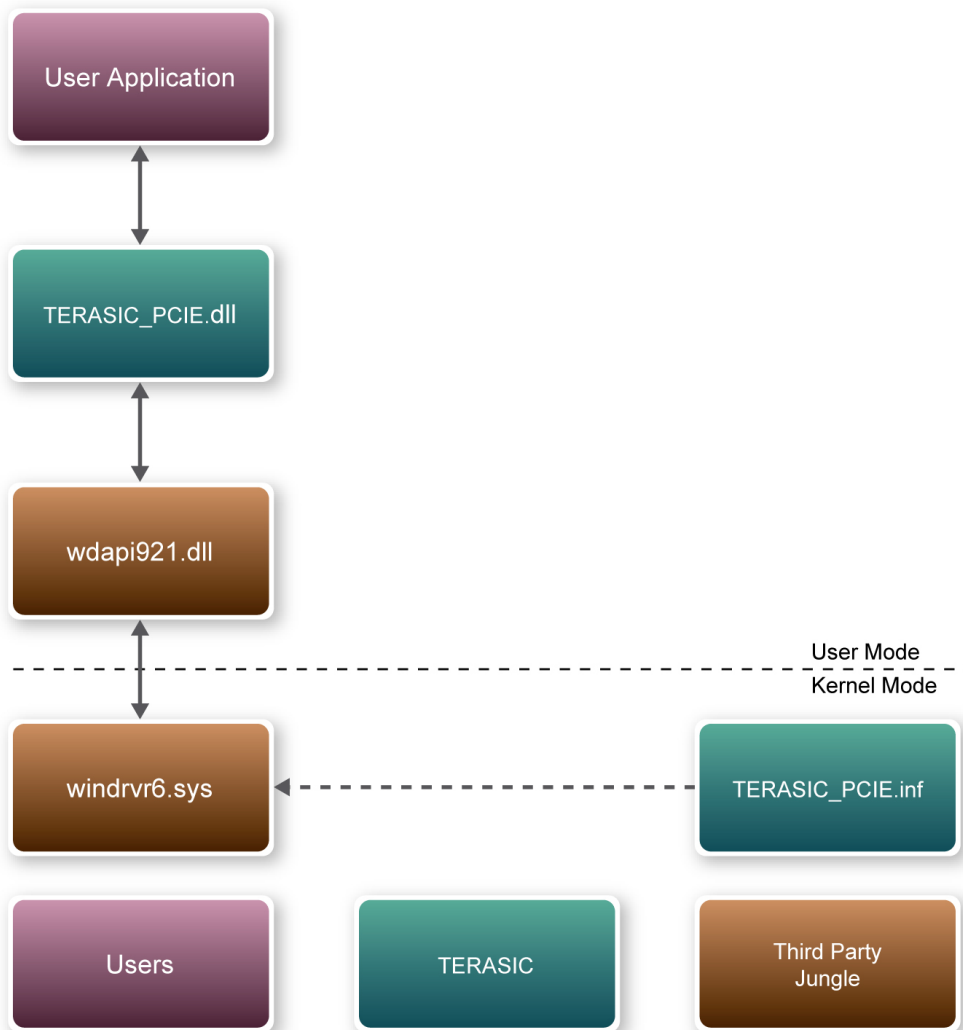

Figure 6–8 PCI Express Software Stack
**Figure 6–8** shows the software stack for the PCI Express application software on 32-bits Windows. The PCI Express driver is incorporated in the DLL library called TERASIC\_PCIE.DLL. Users can develop their application based on this DLL. In 64-bits Windows, TERASIC\_PCIE.dll is replaced by TERASIC\_PCIEx64.dll, and wdapi921.dll is replaced by wdapi1100.dll.